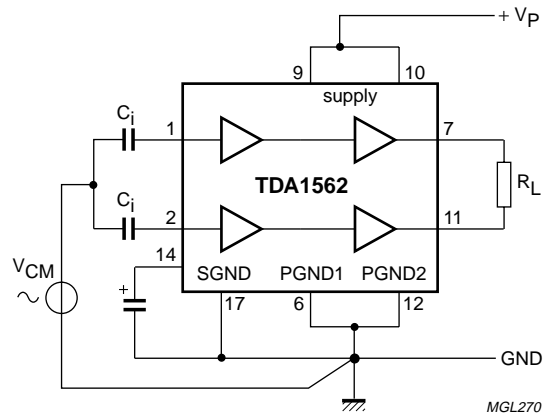

Fig.9 CMRR test setup.
- Common mode rejection ratio is measured across R_L ; $V_{cm} = V_{cm\ max.} = 2 V_{PP}$. CMMR [dB] = differential gain (G_v) + common mode attenuation (A_c), (Test setup according Fig. 9; mismatch of input coupling capacitors **excluded**).